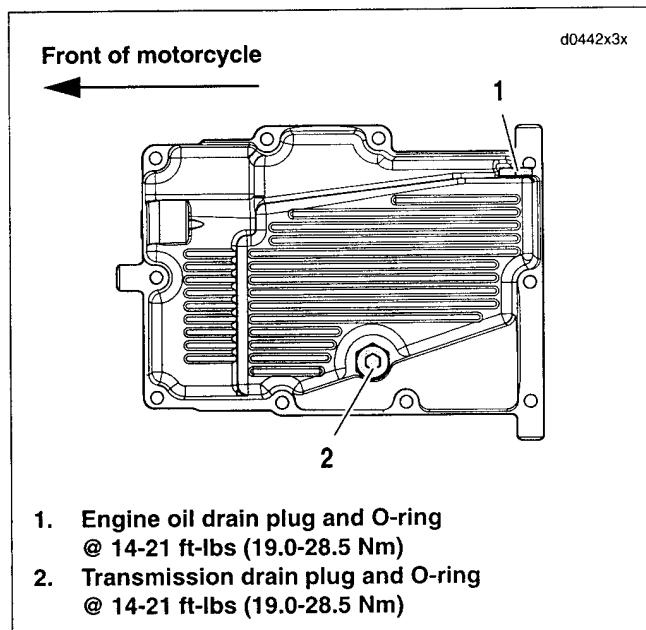
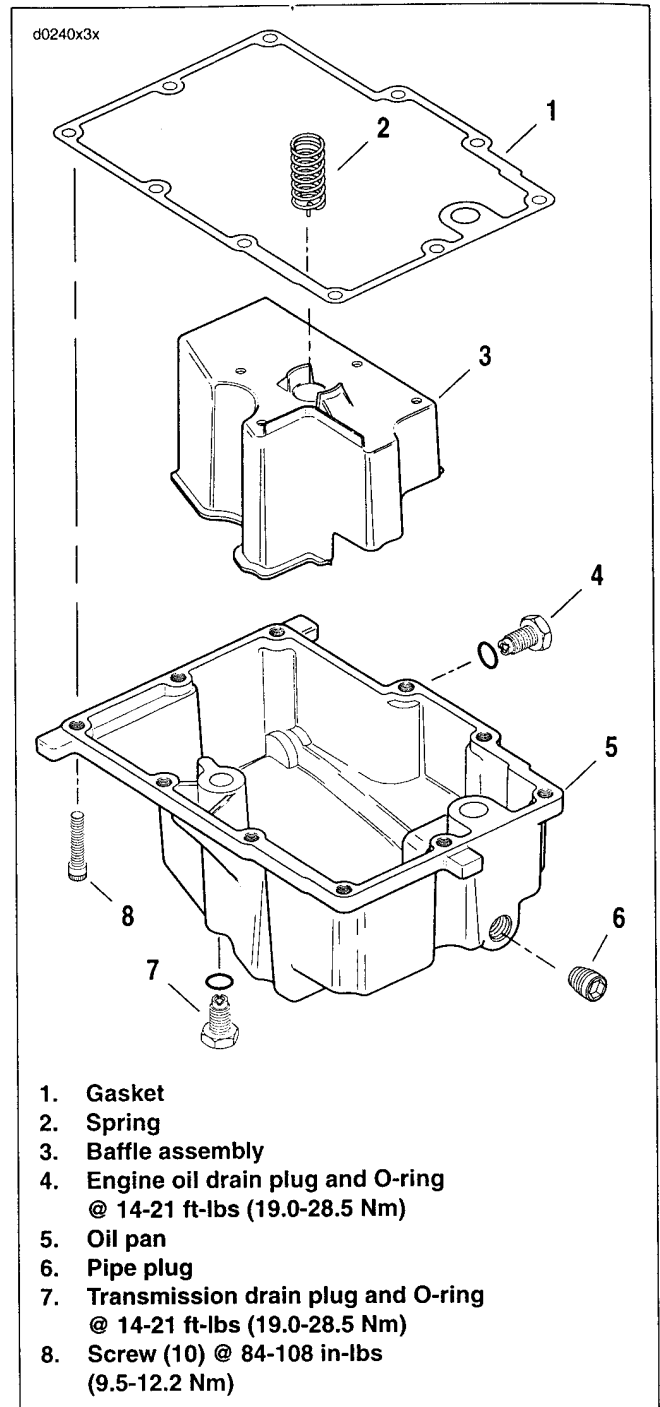

Figure 3-165. Drain Plugs
Figure 3-166. Dyna Glide Oil Tank
2. See Figure 3-165. Drain fluids from oil pan.
- a. Remove engine oil drain plug (1), fill plug/dipstick and oil filter. Drain oil into suitable container. See 1.4 ENGINE OIL AND FILTER.
- b. Remove transmission drain plug (2). Drain transmission fluid into suitable container. See 1.13 TRANSMISSION LUBRICANT.
3. See Figure 3-166. Remove ten screws (8) that secure the oil pan to the transmission housing.
4. Remove oil pan (5) and gasket (1). Discard gasket.
5. Remove baffle assembly (3) and spring (2) from oil pan.
2. See Figure 3-166. Insert baffle assembly (3) and spring (2) in oil pan.
3. Place **new** gasket (1) on oil pan.